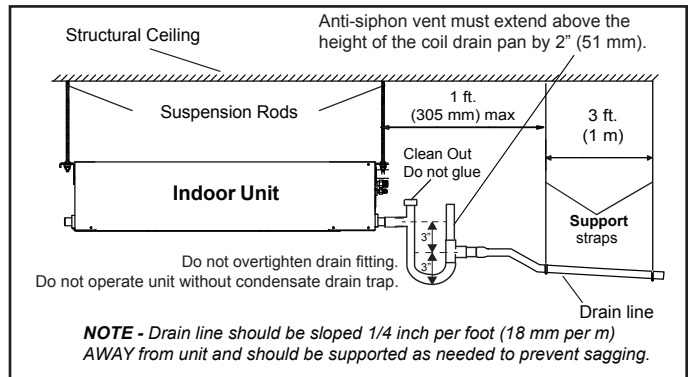

Figure 19. Sloped Condensate Drain -- Single Unit
3. See Figure 19 for applications including a single unit and a single gravity drain. In this case, ensure that the drain line is properly sloped (no less than 1/4 inch per foot) and condensate lines are routed to ensure moisture is drained away from the indoor unit. A gravity drain connection port is located on the side of the unit with the refrigerant piping and on the opposite side of the unit. Select one connection to use and leave the unused connection port sealed. Seal and plug the lift pump connection port when using either gravity drain connection port. Disconnect the factory-installed lift pump, CN 13.